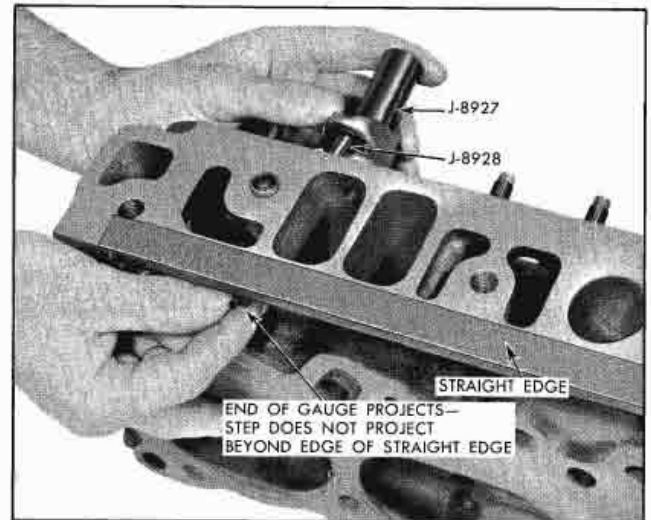

Fig. 6-37 Checking Length of Valve Stem with J-8928
a. Position rocker arm on stud and hold in place using rocker arm stud installer J-8927. Slip valve into place and hold it against valve seat. While holding rocker arm and valve in position securely, insert valve train gauge J-8928 through push rod hole and seat snugly in push rod seat of rocker arm (Fig. 6-37) With all parts seated, step end of gauge should be at least flush with gasket face of head, but should not project past the step on the gauge.